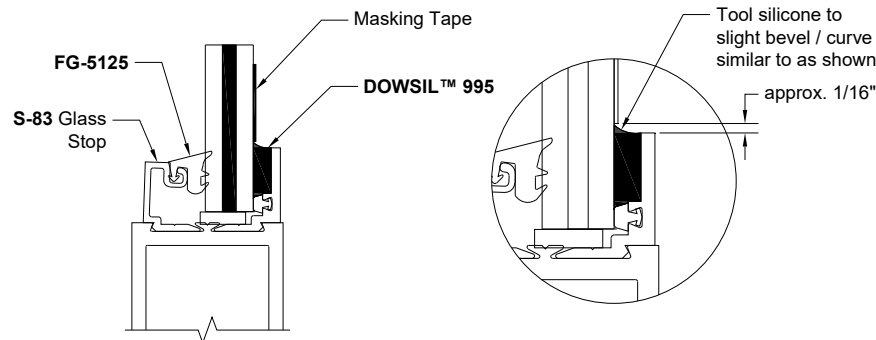

Figure 26: Wet Glazing Door
- 11.5.2 Clean glass with isopropyl alcohol and mask off glass with 1" wide (minimum) low-adhesion masking tape. For masking tape application location, reference *Figure 26*.
- 11.5.3 Fill the cavity between the glass and the **S-98** Glass Stop with **DOWSIL™ 995** Silicone Structural Sealant, as shown in *Figure 26*. Care should be taken not to leave any voids and to eliminate air bubbles in the sealant. Immediately tool, creating a finished joint with a slight beveled/curved joint surface.